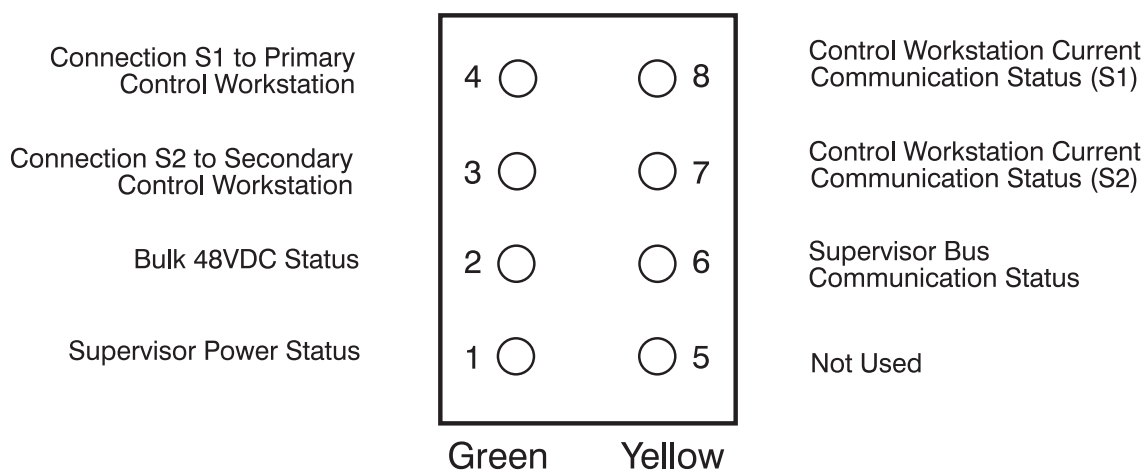

Figure 1-1. 8-LED frame supervisor card LEDs.
- Figure 1-1 on page 1-12 illustrates LED locations